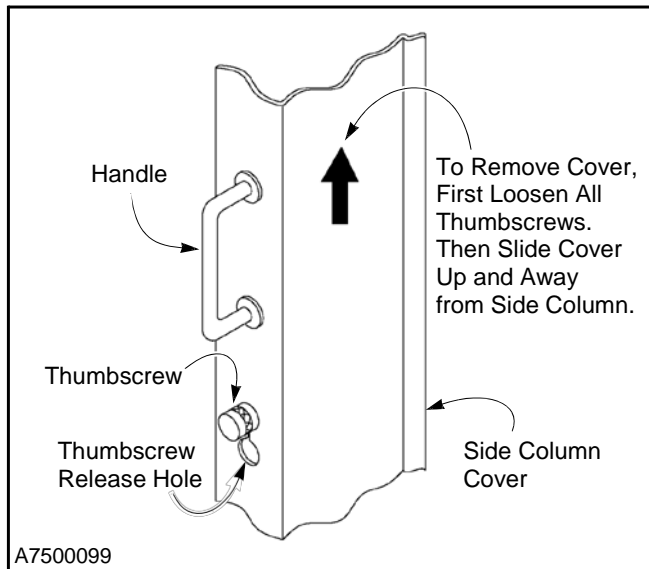

Figure 43
2. Loosen all thumbscrews on the side column cover. Then remove the cover by lifting it up and away from the side column. (See Figure 43.)